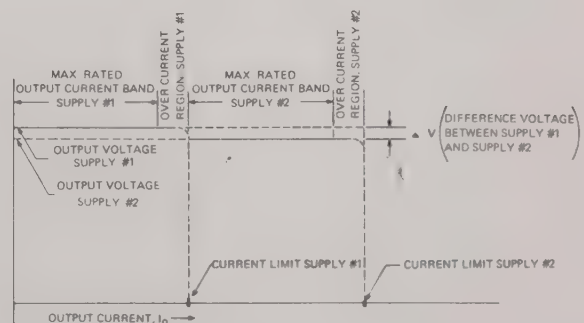

FIG. 3-12 PARALLEL OPERATION, PCX—MAT POWER SUPPLIES
- 3-44 Two identical PCX—MAT power supplies may be operated in parallel for increased load-current output. Each supply is set to the desired output voltage with its respective Current Limiting Adjustment set to the maximum rated output current. After paralleling the two power supplies, one of the (supply #1) will inherently be at a slightly higher output voltage than the other (supply #2). Consequently, supply #1 will deliver all the load current up to the setting of its Current Limiting Adjustment. As the load is increased beyond this limit of supply #1, supply #2 takes over and delivers the additional current. The Current Limiting Adjustment of supply #1 can now be decreased, so that approximately equal current sharing is obtained. FIG. 3-12 shows in form of a diagram, how the two supplies operate in parallel, with their respective Current Limit Adjustments set to the maximum rated output current. It will be obvious from the diagram, that the areas of load regulation are within the output current bands of the individual supplies only. Therefore, load regulation cannot be measured from zero to twice the load current for example, but only within the individual load current bands. Error sensing as described in Par. 3-5, (from either supply) may be used if precise regulation at the load is required.